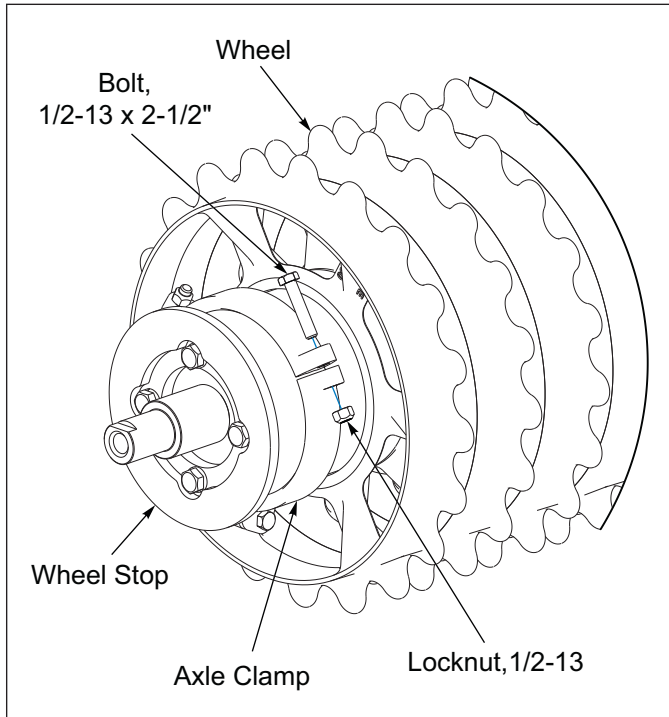
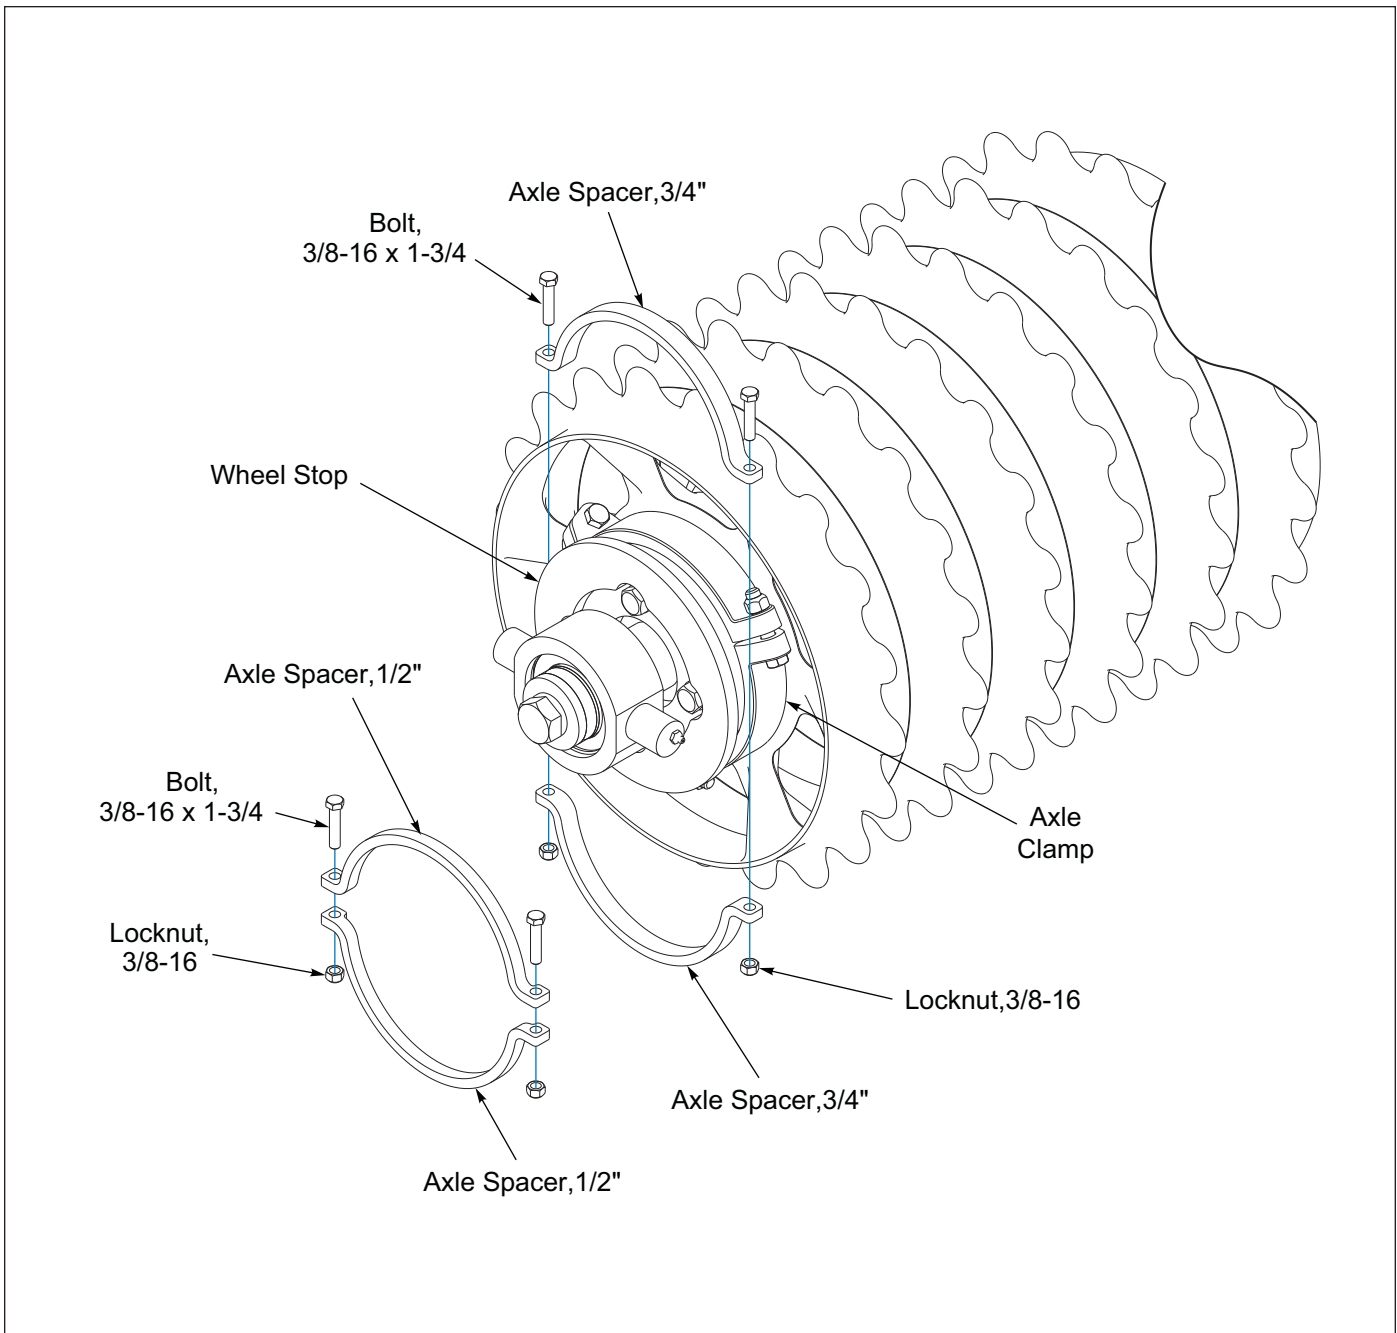

Figure 4-6: Roller Axle Assembly
Figure 4-9: Clamp End Spacer Kits, 1/2", 3/4" - Optional
After an initial run of 5-10 hours, check the Roller Axle Assemblies to ensure that the wheels are tight to one another. If not, starting at the welded stop end, slide the wheels tight together and adjust the Axle Clamps so that it's against the wheel. **See Figure 4-6.** If there is a gap between the Axle Clamp and Wheel Stop, install the appropriate clamp spacers. **See Figures 4-9 and 4-10.**
1. Place the two Axle Spacers between the Axle Clamp and the Wheel Stop. **See Figure 4-9.**